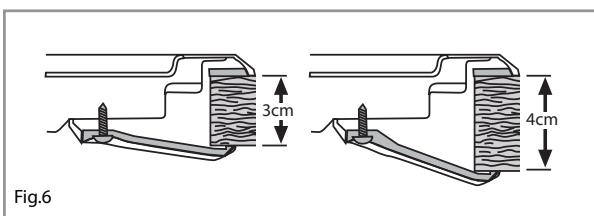

Fig.6
3. Secure the hob to the worktop using the fixing brackets and screws supplied, as shown in the following diagram (Fig 6). Remove any excess sealant after tightening the brackets.